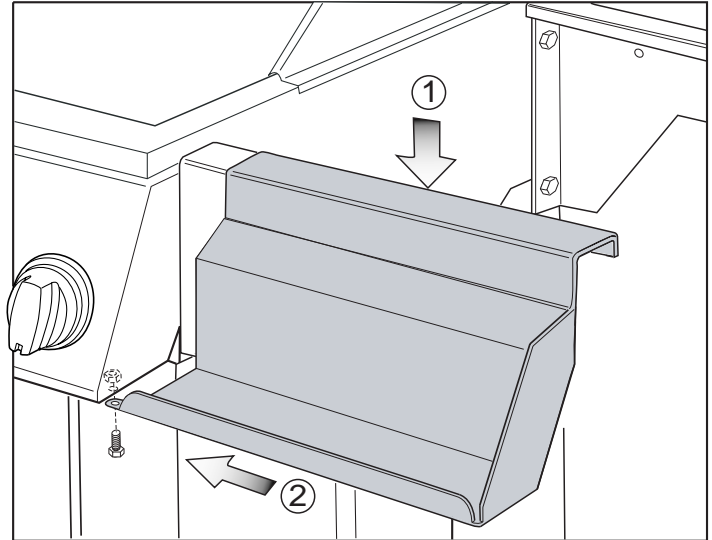

Fig. 4a
(6) #10–24 x 1/2" bolts; (6) #10–24 locknuts (see below)
Hook the left and right front shelves over the corresponding front shelf supports, push towards the grill base. Attach to the bottom of the control console with (1) bolt and (1) nut each (Fig. 4a).